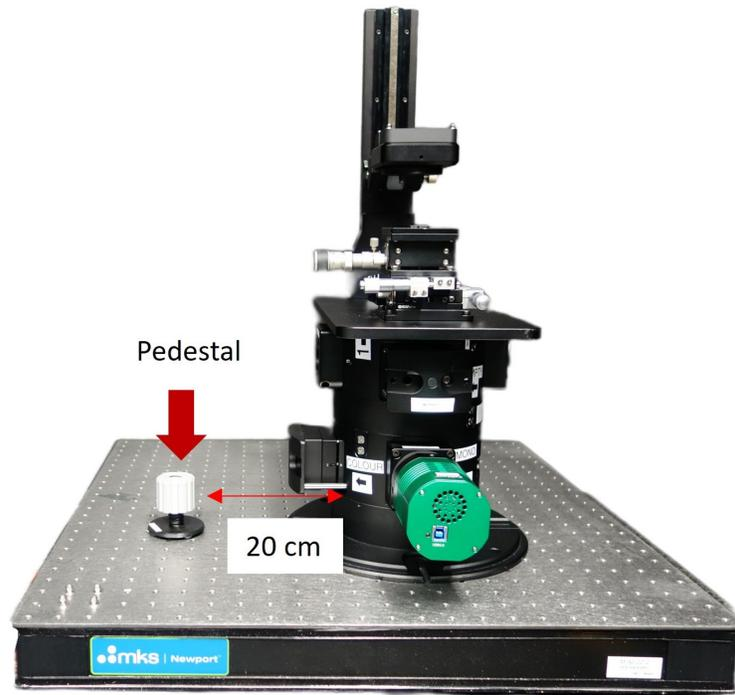
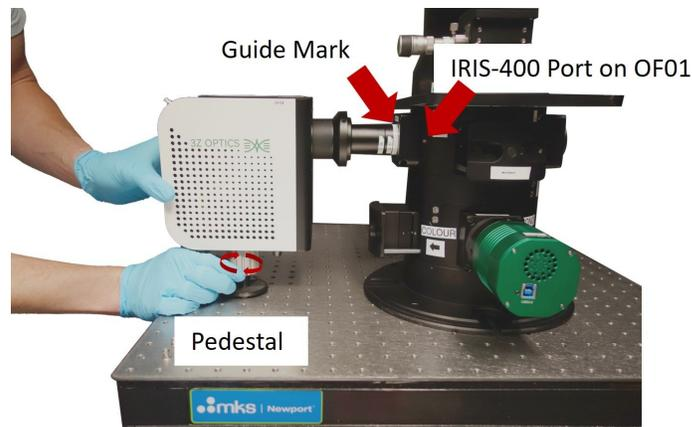

Figure 11: Placing the pedestal.
Figure 15: IRIS-400 supported by the pedestal and coupled to the fluorescence port of the Traveller.
2. Remove the pedestal (OF08) from the larger pelican case (C2). Place the pedestal (OF08) on the working surface approximately 20cm to the left of the IRIS port on the openFrame OF01 (Figure 11). The pedestal will support the IRIS-400 once installed, as shown in Figure 15.
- Insert OF07 into the openFrame OF01. This will couple the IRIS-400 to the openFrame. Insert the tube only as far as the guideline mark (do not exceed). The pedestal (OF08) should be underneath the IRIS-400 main body. Rotate pedestal (OF08) to adjust the pedestal height until it gently supports the IRIS-400 (Figure 15). Rotate OF08 either anti-clockwise to raise or clockwise to lower the pedestal height. Once complete, the mounted IRIS-400 should resemble the setup in Figure 15.